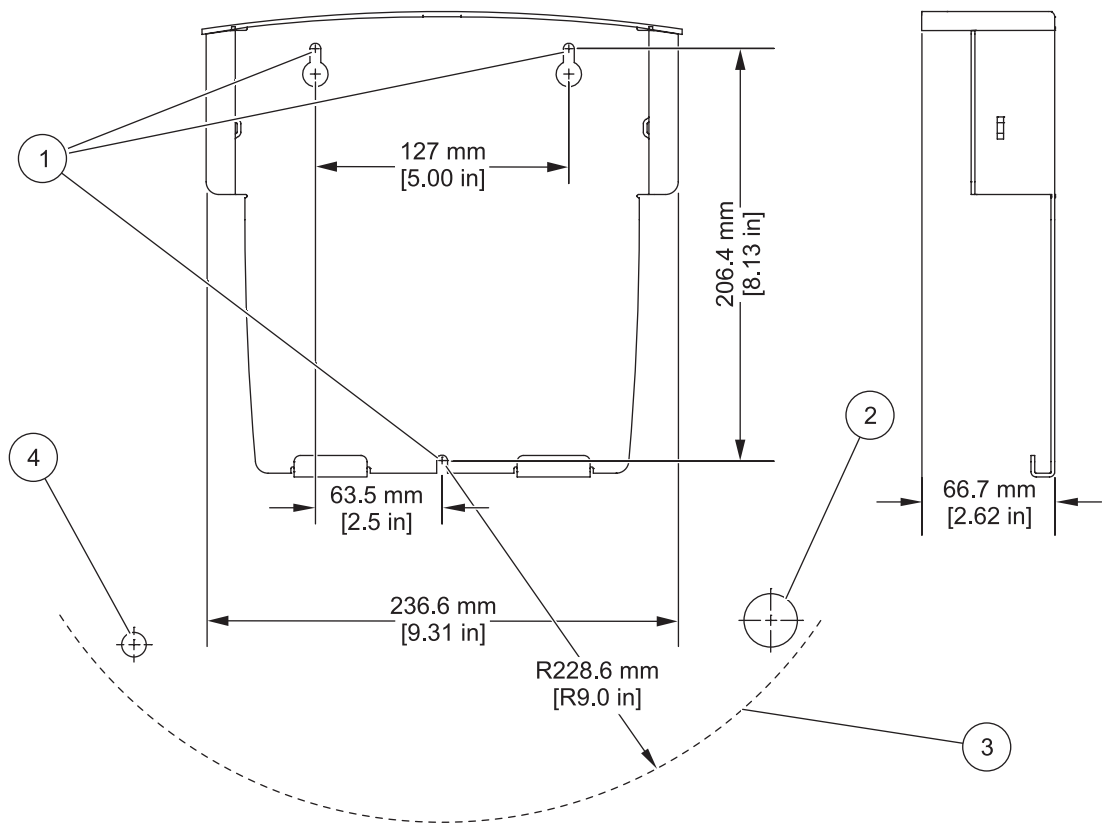

Figure 1 Panel mount dimensions
- 1. Determine the location of the bracket on the panel. Allow enough room for the strain relief pass-through or optional bulkhead connector pass-through to be located within a 228.6 mm (9 in.) radius of the bottom mounting screw (Figure 1).
- 2. Install three customer-supplied # 10 pan head or equivalent low profile head screws into the panel (Figure 1, item 1).
- 5. Drill the pass-through hole for the strain relief fitting or the optional bulkhead connector within a 9-inch radius from the bottom mounting screw location (Figure 1).